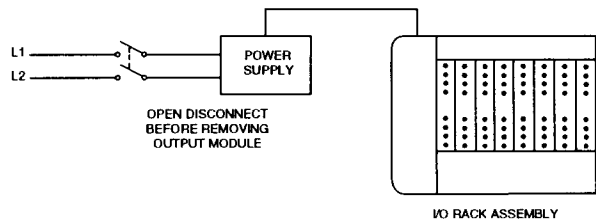

Figure 4: Removing power from the power supply
1. Turn the processor keyswitch to “HALT” or “DISABLE OUTPUTS,” or remove power from the power supply feeding the rack assembly. See Figure 4.